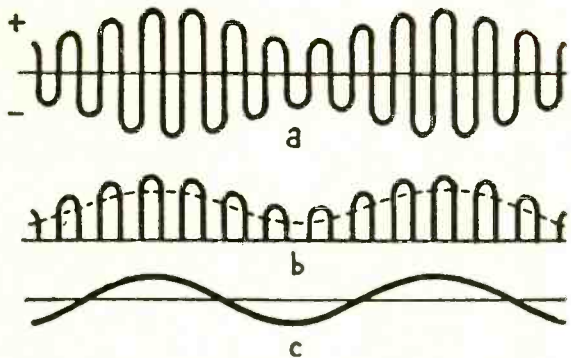

Fig. 2. Here we show (a) a radio carrier (a); (b) the carrier after passing through the crystal detector; and (c) subsequent filtering by a headphone capacitor.
An amplitude-modulated (AM) signal such as the crystal set is designed to receive consists of an audio component (the voice and/or music being transmitted) superimposed on a radio-frequency signal known as the *carrier*. The amplitude, or strength, of the carrier varies in accordance with the pattern of the audio signal impressed upon it. In the graphic representation shown in Fig. 2(a), the carrier is represented by the alternating current repeatedly varying between plus and minus values. The audio signal is represented by the more gentle variations impressed on the carrier.
If you look at the crystal radio schematic, however, you'll see that no signal can pass through the headphones without passing through the crystal detector. The characteristics of the crystal are such that it acts as a one-way valve. The net effect is represented in Fig. 2(b), where the negative parts of the signal have been completely cut off with only the positive parts reaching the headphones. However, the rapid variations of the radio carrier can still be seen within the envelope of the audio signal.
tion and silence in the headphones. Then discharges back into the circuit as the voltage falls again. The net result is that the radio carrier variations are smoothed out (filtered) and effectively disappear, as shown in Fig. 2(c), leaving only the audio signal—which is now audible in the phones.